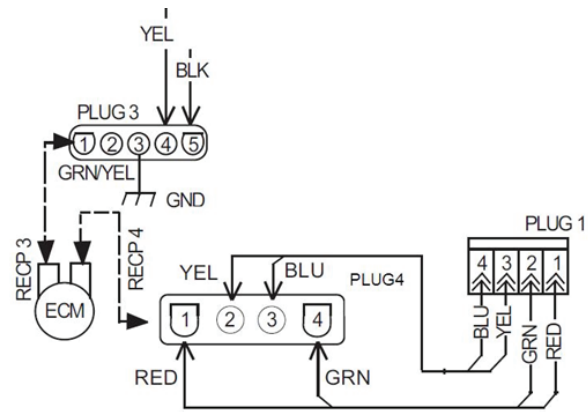

Fig. 10 – ECM/Plug Wiring Diagram
3. Disconnect Plug 1 from the board (Fig. 10).
1. If Fault Code 44 and the Motor LED are both flashing, place a DC voltmeter across terminals PL1-1 Red (+) to PL1-2 Green (-) (Fig. 10).